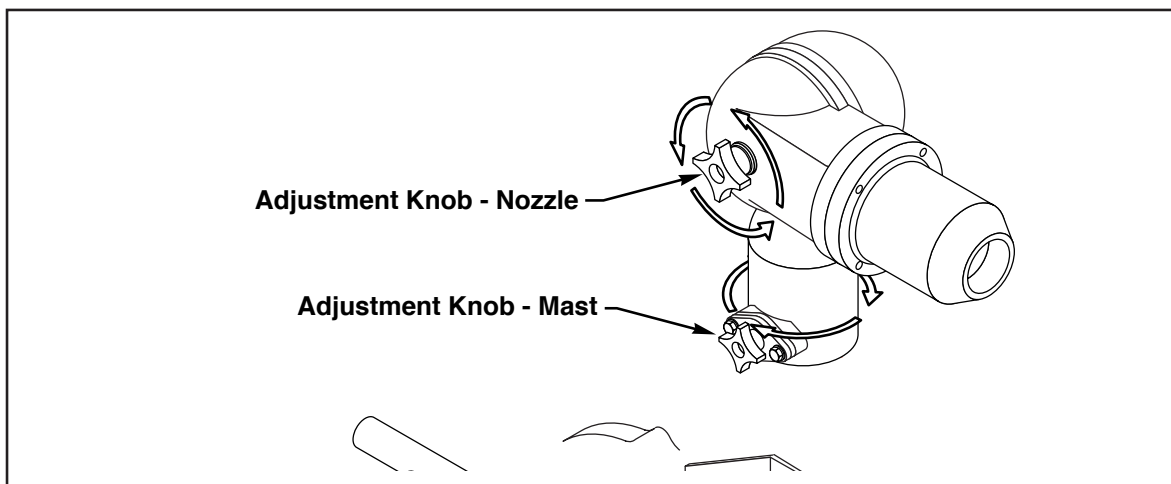

Figure 7- Nozzle Position
10. Verify that the nozzle is in the correct position for spraying. The nozzle is adjustable both horizontally and vertically. To rotate the nozzle, loosen the appropriate knob on the side of the mast or side of the nozzle head and rotate the nozzle. Retighten the knobs after adjustment. Reference Figure 7.